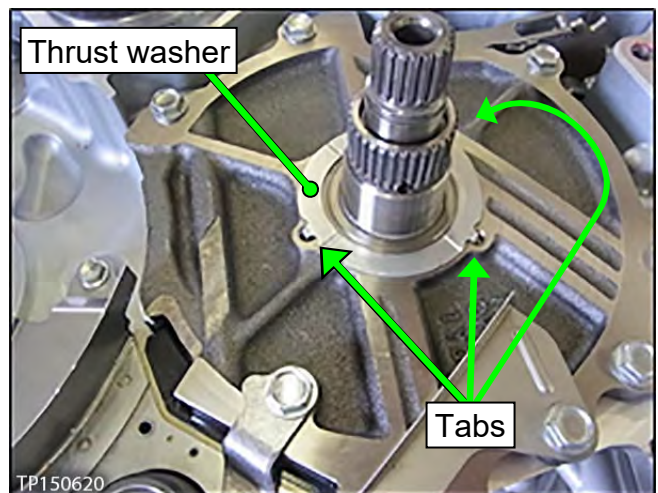

Figure 76
12. Install the existing thrust washer onto the oil pump cover (see Figure 76).